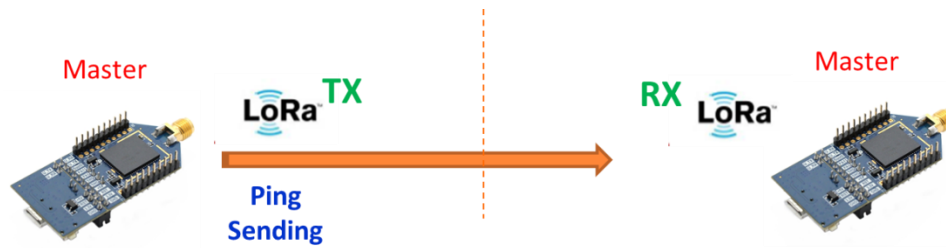

Figure 5.2
- While a S76S/S78S XB board boots up, it will enter ping-pong master mode by default. Therefore, one of two devices would send “Ping” signal by LoRa first and try to let another XB board to receive (Figure 5.2).